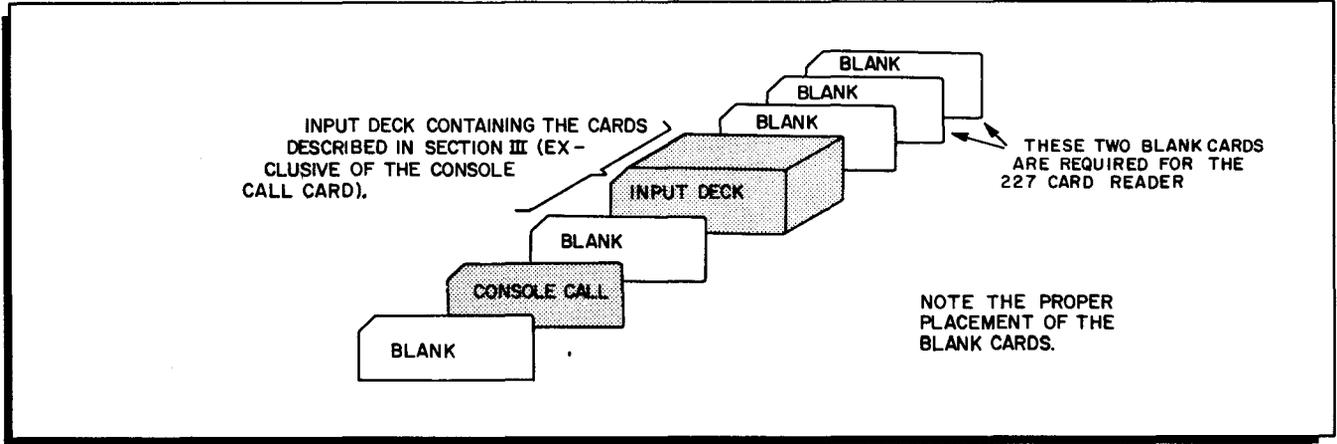

Figure 1. Makeup of Deck Containing Input Deck and Console Call Card
- a. Card Input: Place the appropriate card deck in the card reader input hopper (see Figure 1) and cycle-up the card reader.
6. A Loader-Monitor halt will occur with 17002 contained in the B-address register. This indicates that the Loader is in memory and awaiting a console call. If the Console Call card has been placed in the card reader (see Figures 1 and 3), proceed to step 7. Otherwise, the contents that would ordinarily be punched on the Console Call card must be entered into the addresses specified below: